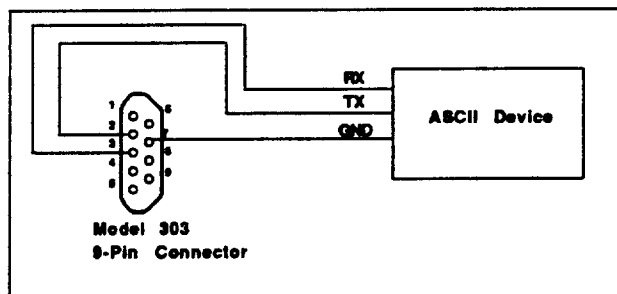

Figure 2-3. RS-232C Connection
***The Model 303's echo function is always on.*** Attach the RS-232C connection from your ASCII device to the 9-pin D connector on the front panel of the Model 303 (refer to Figure 2-3). If you are using an IBM PC, an RS-232C cable is provided.